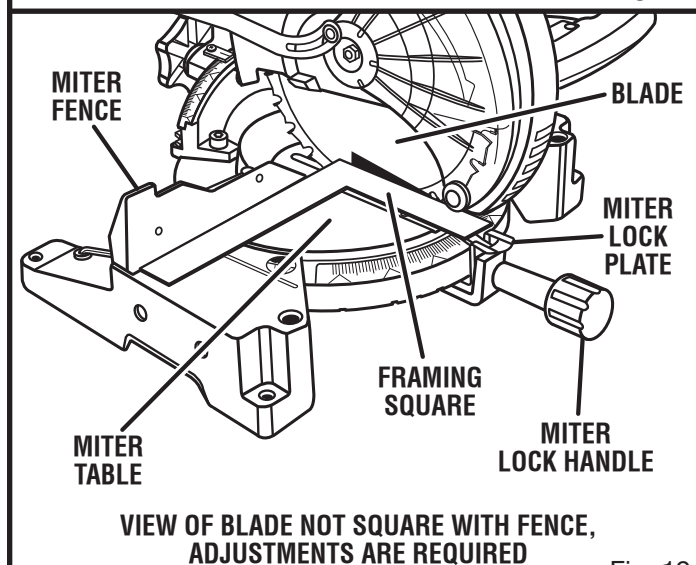

Fig. 19
- If the front or back edge of the saw blade angles away from the square as shown in figures 19 and 20, adjustments are needed.